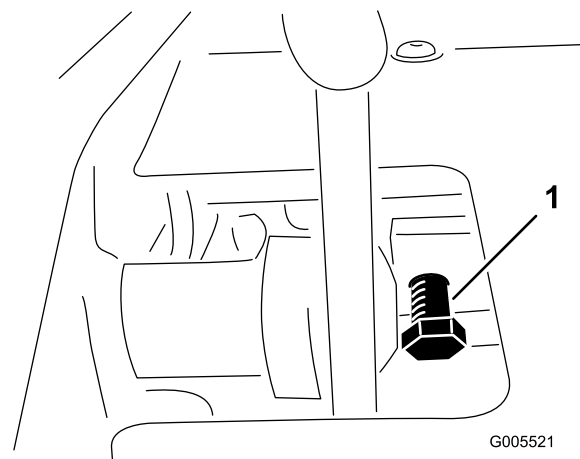

Figure 55
1. Loosen the jam nut on the pedal lock bolt (Figure 55).